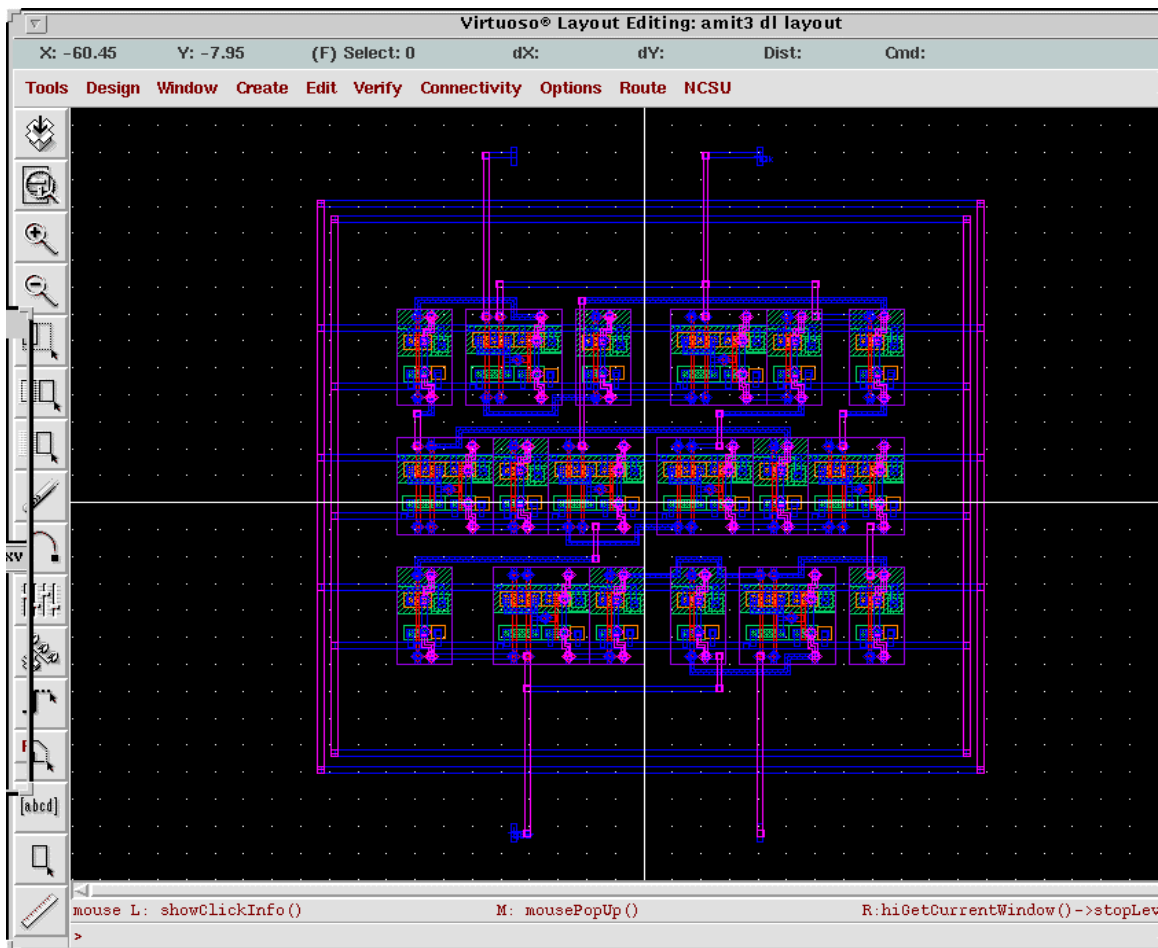
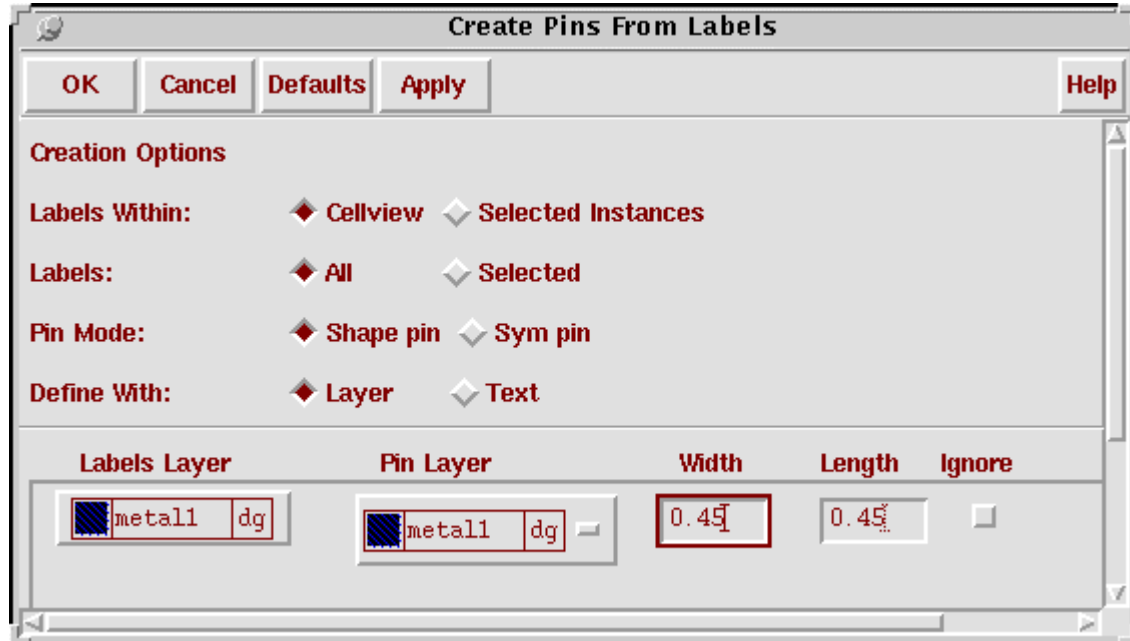

Fig 29: Final Layout
Fig 30: Create Pins From Labels
9. In the library manager open the layout view of the intended design. The layout is as shown in Fig 29.
10. In Fig 29 select **Create** -> **Pins from Labels** and the “Create Pins From Lables” window opens as shown in Fig 30. In Fig 30 change the **Pin Layer** for all the **Labels Found** to *metall dg* and change the **Width** and **Length** to 0.45. Click **OK**.